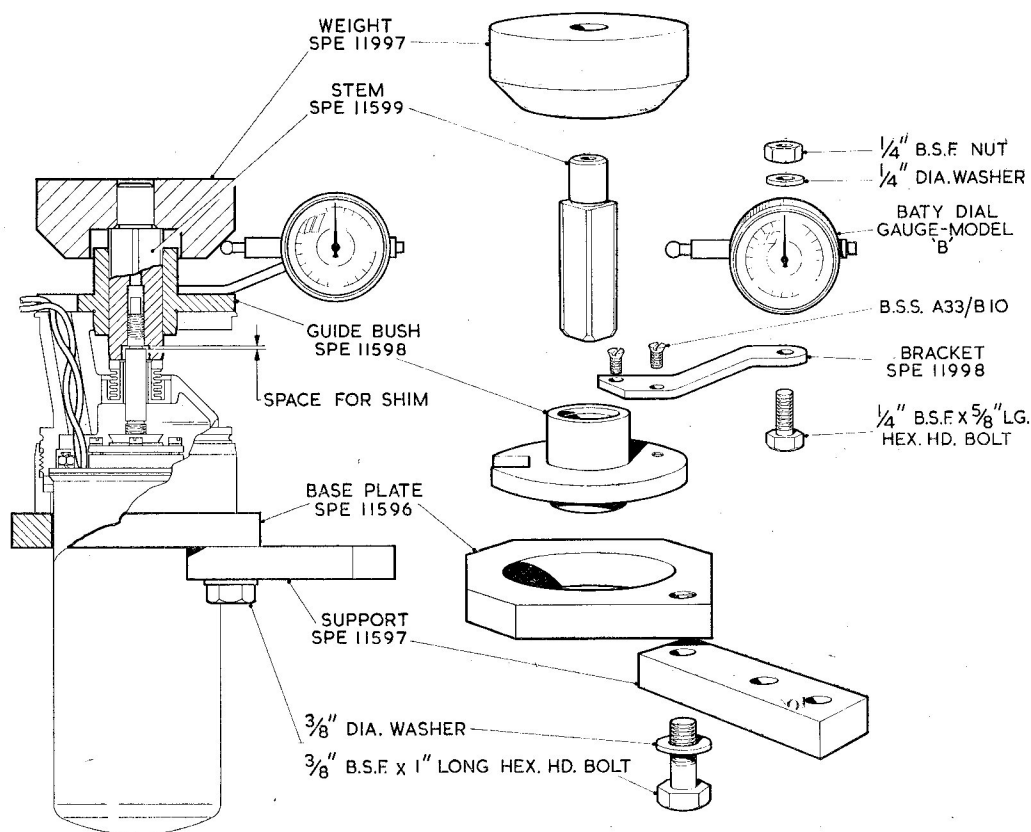

Fig. 16. Fixture for Checking bellows loading
27. (1) Using the fixture shown in fig. 16 determine the thickness of shims (44) to be fitted between the vapour assister assembly (7) and the shoulder of the